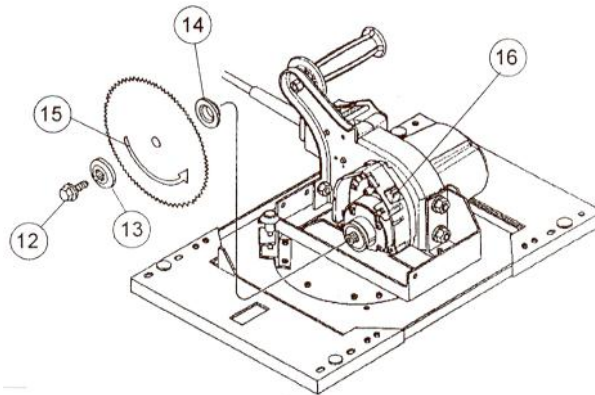

Figure 19: Installing a Saw Blade (H Series Shown)
3. To keep the spindle from turning while you loosen the arbor bolt (12) push the spindle lock (16) located on the under side of the saw motor. Then tighten the carriage lock.
4. Use the allen wrench provided with the saw to loosen and remove the bolt (Figure 19) counterclockwise (C4, C5, H-Series) clockwise (6400/6800).
5. Remove the outer blade flange (13), blade (15), and inner blade flange (14).